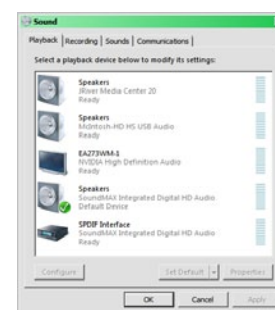

Figure 82
1. From the Windows START button, click on “CONTROL PANEL” followed by selecting “SOUND”. Refer to figure 82.